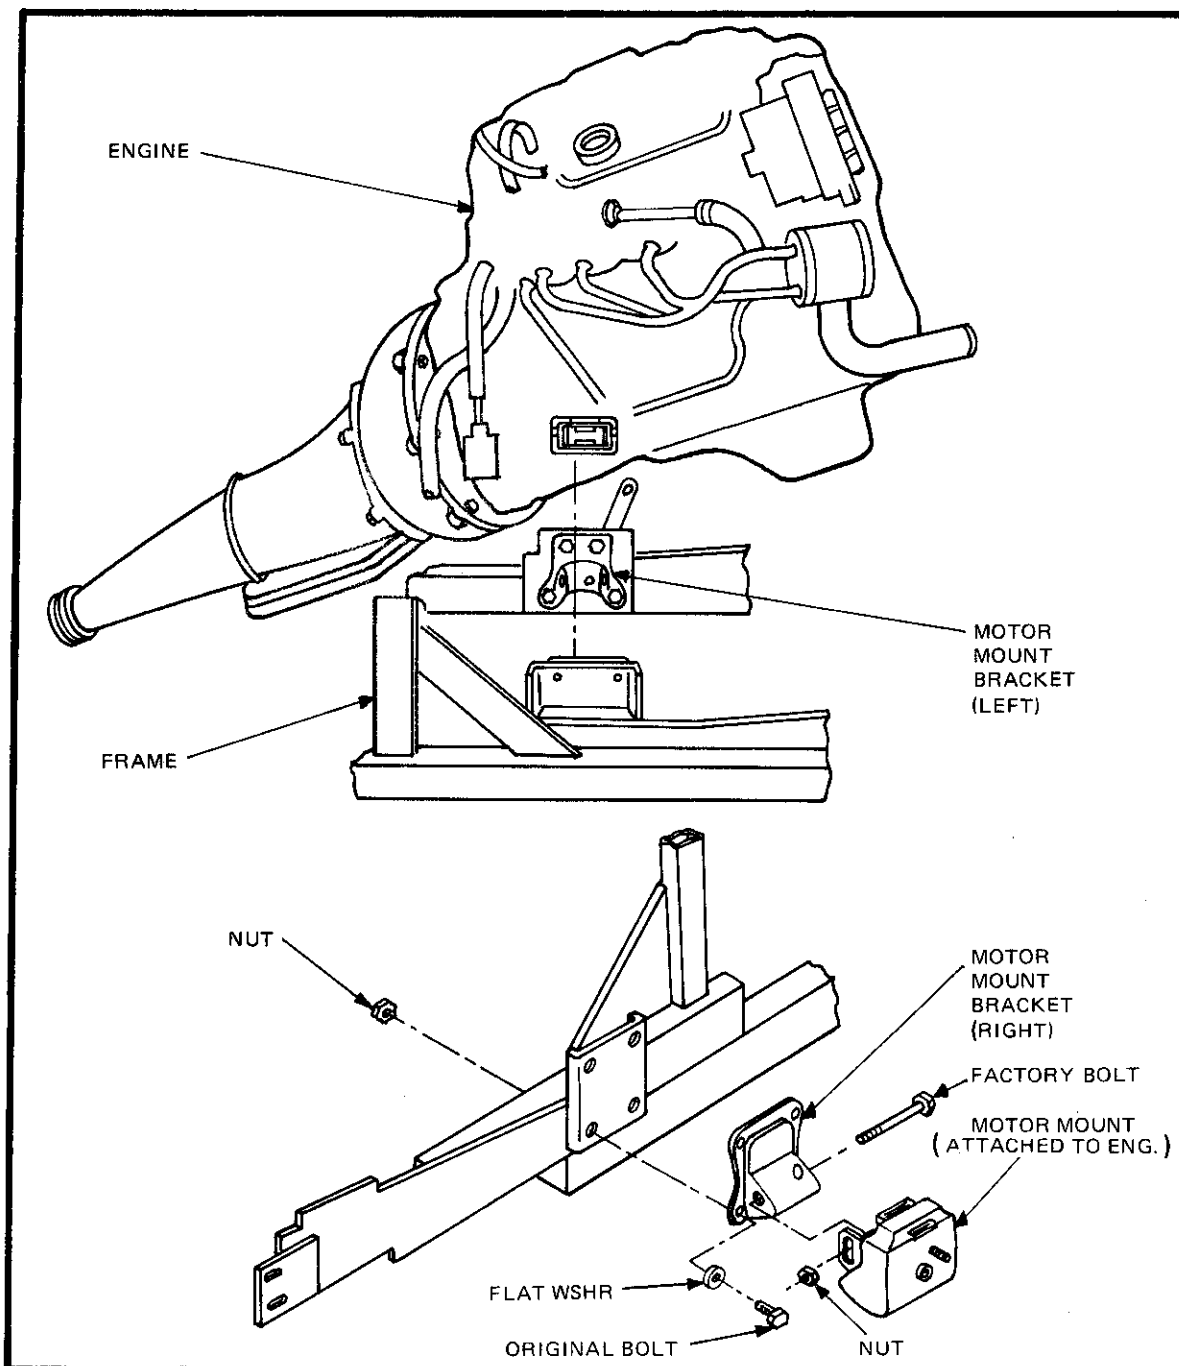

Figure 15
- ☐ Attach motor mount brackets to the plates on the side of the frame. The larger of the two brackets goes on the left. Use original Ford nuts and bolts with washers under the bolt heads of the lower bolts to give clearance. (Figure 15)